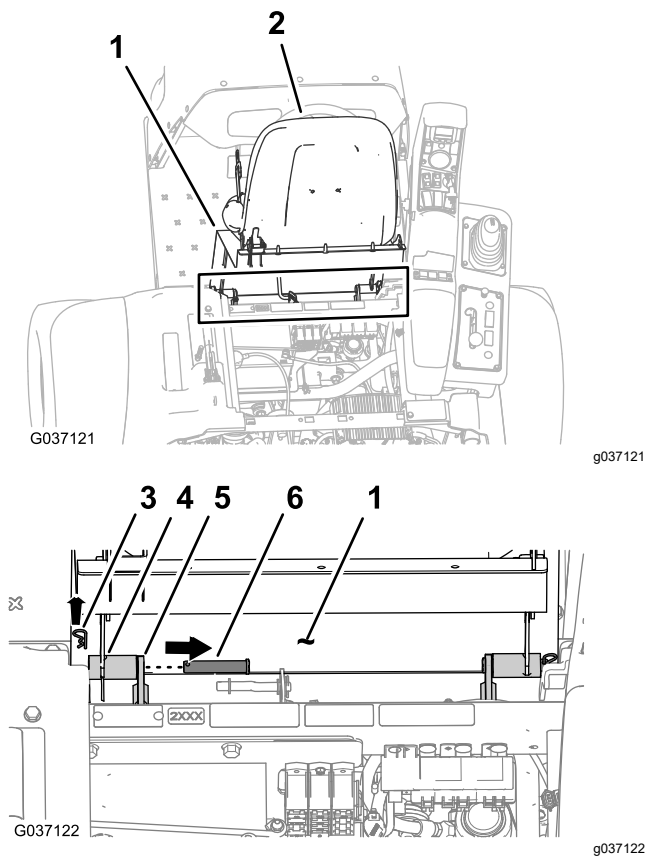

Figure 7
- Remove the 2 hairpins that secure the pivot fitting of the seat plate to the chassis brackets (Figure 7).
- Remove the 2 pivot pins that secure the seat and seat plate to the chassis (Figure 7).